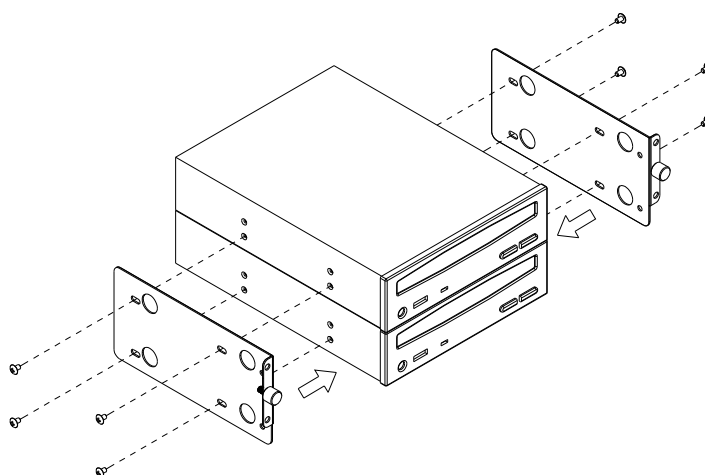

Figure 2.6 Disk drive installation
2. Insert the disk drive in place in the disk drive housing and affix it into position using the screws provided (Figure 2.6).